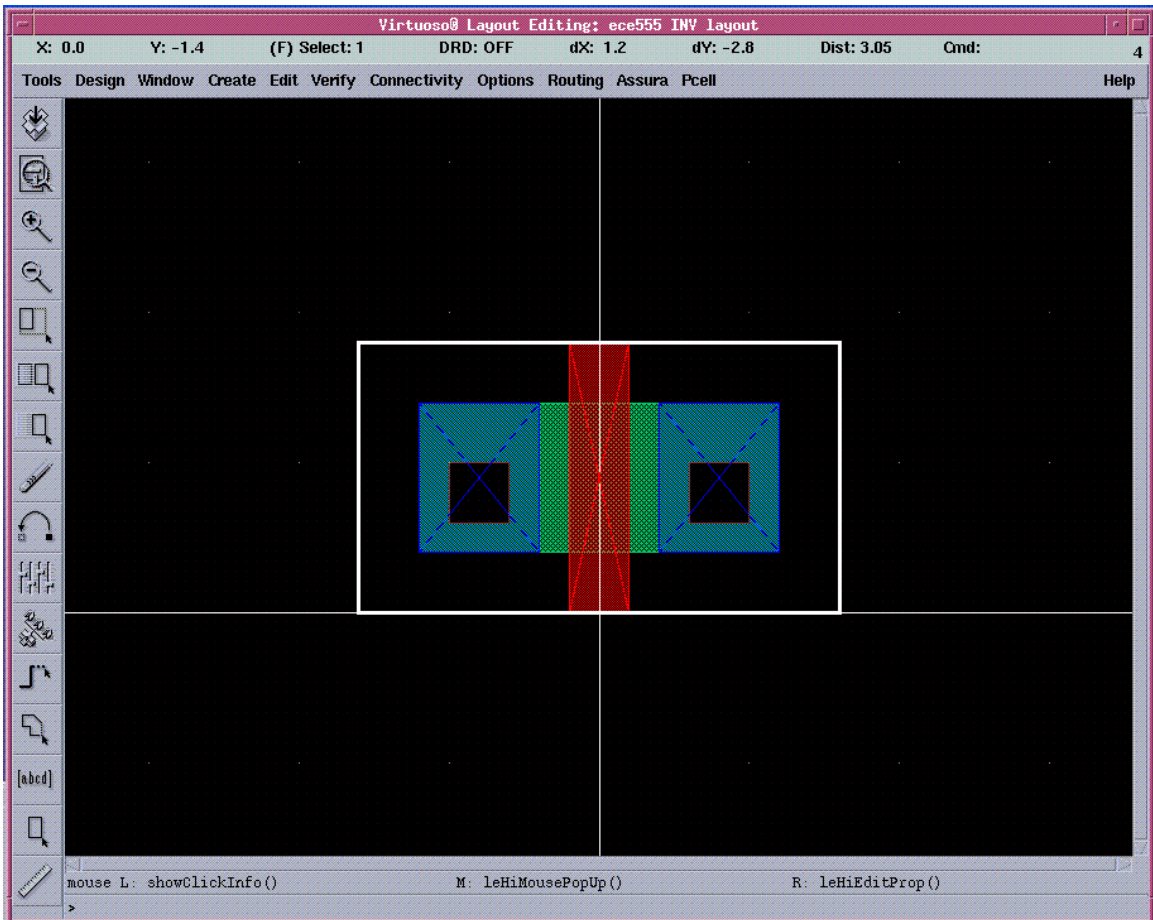

Fig. 6. Placing the nmos cell
- Put nmos cell down in *Layout Editing* window like in Fig. 6.